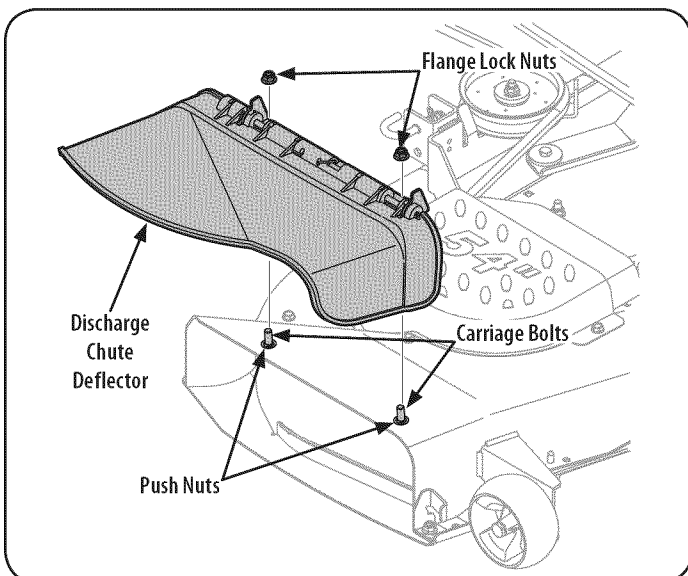

Figure 7
3. Install the discharge chute deflector using the carriage bolts, push nuts and flange lock nuts as shown in Figure 7 and securely tighten the hardware.